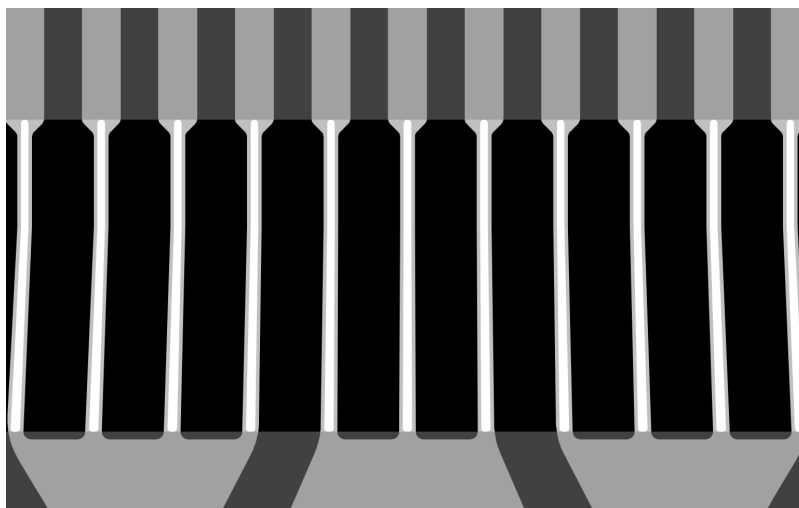

Figure 2: Cutout slots between pads. The width of each slot is 10 μm.
- c. Cutout slots between bond pads are useful for minimizing lateral movement during bonding (Figure 2).